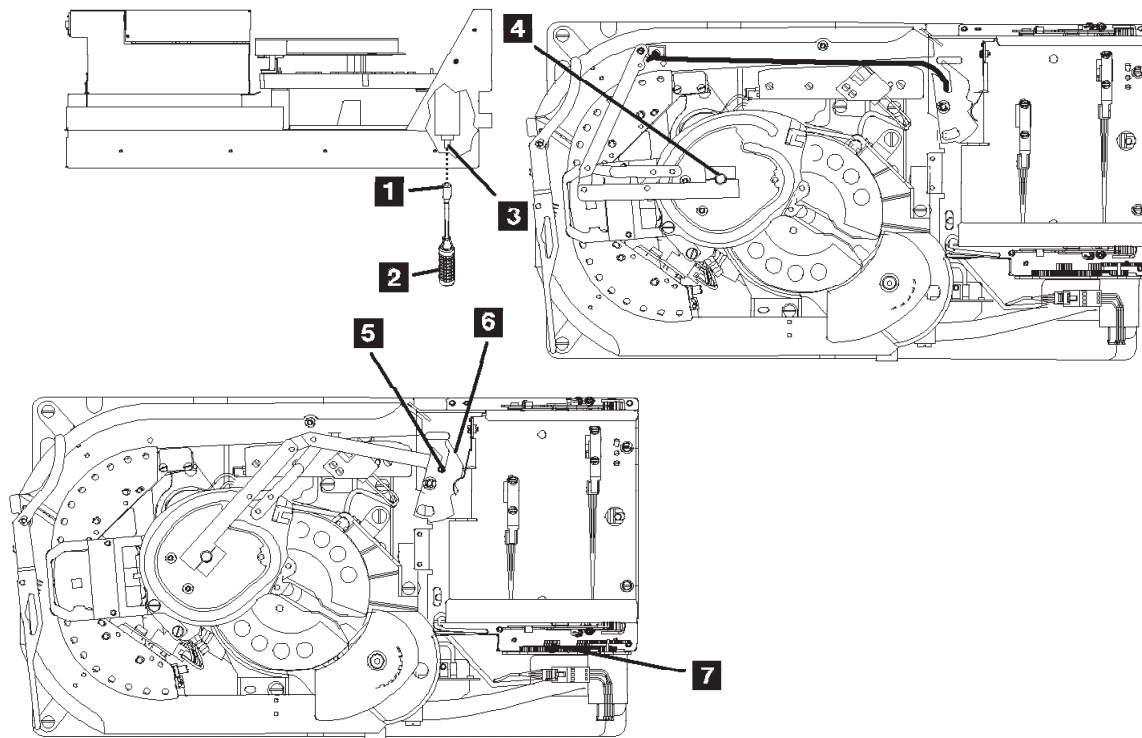

Figure 9-29. Leader Block and Threader Pin Stopped in Tape Path
1. See Figure 9-29. Attach the tape removal tool **1** (P/N 6850663) to your socket wrench handle **2**.